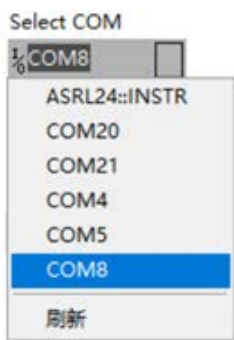
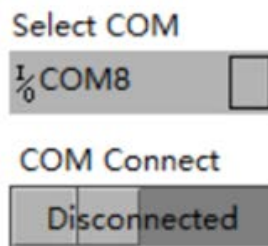
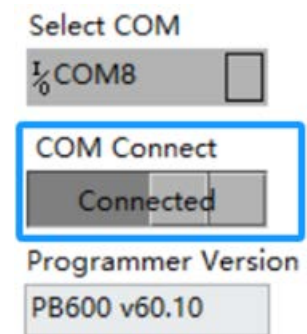

Figure 5.1.3 Select COM
Figure 5.1.4 Click COM Connect normal connection
Figure 5.1.5 Status of the programmer after
- Click the drop-down menu under "Select COM" to select the corresponding port number of the programmer (Figure 5.1.3). Click the "Disconnected" button under "COM Connect" to establish a communication connection between the programmer and the host computer (Figure 5.1.4). When the communication between the programmer and the host computer is properly established, the programmer returns the current firmware version number, which is displayed in the box corresponding to "Programmer Version" below (Figure 5.1.5).